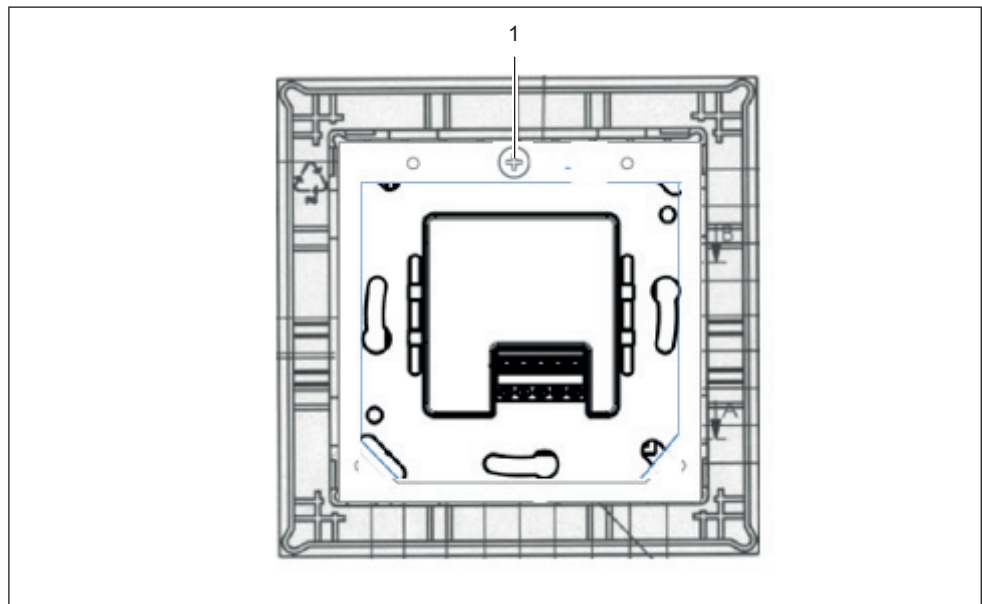

Fig. 20: Insert the mounting plate and fix it
3. Reinsert the clamping plate into the blind module and fix it (Fig. 20).